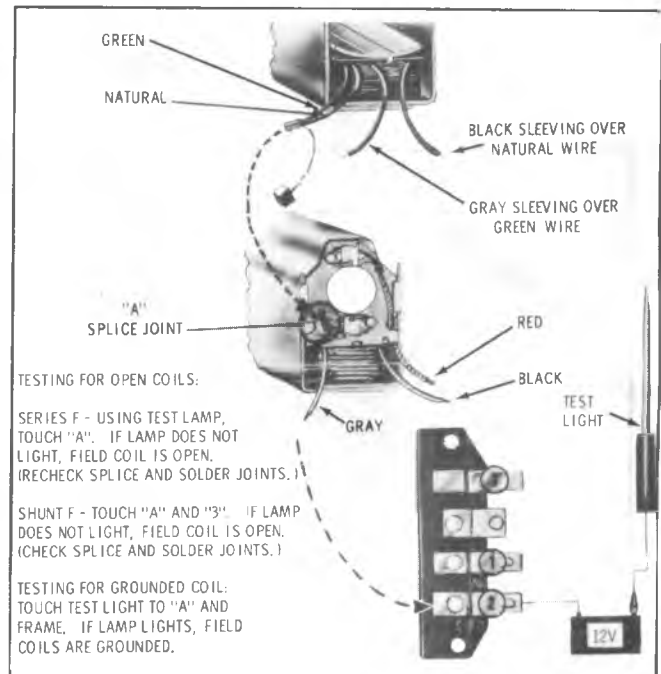

Fig. 8-44-Testing Field Coils
2. Remove washer pump drive cam as required (figs. 8-44 and 8-45). The cam is pressed on the shaft but can be wedged off by using two screwdrivers between cam and plate.